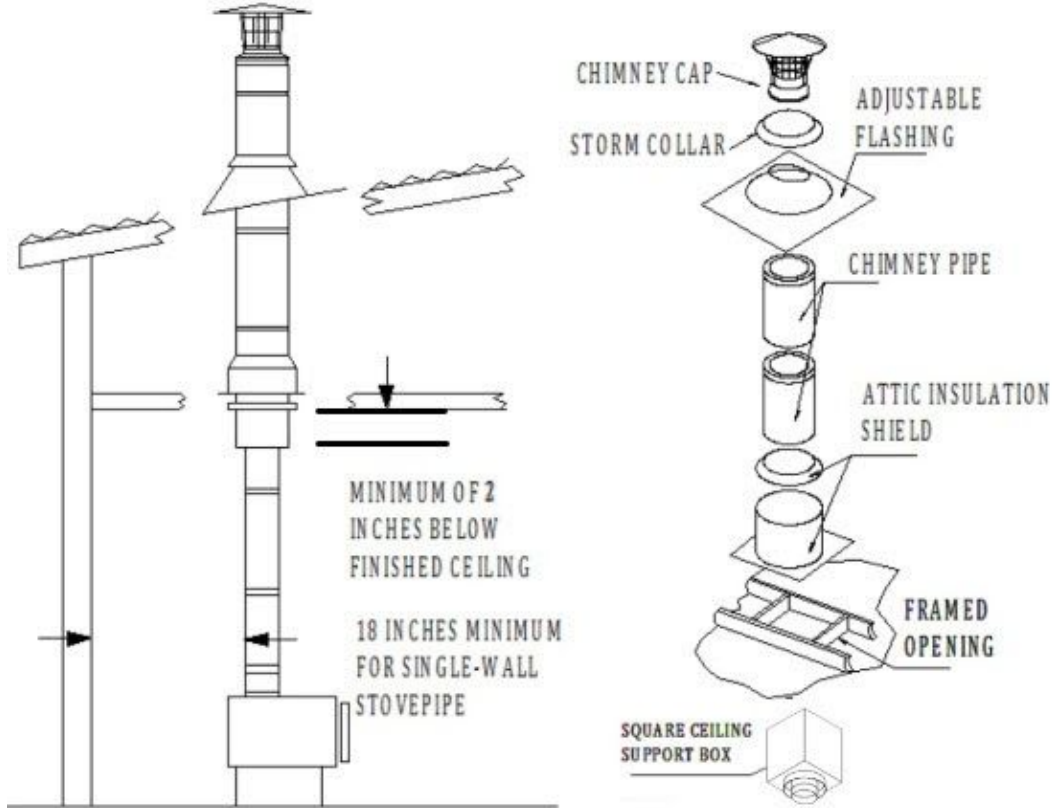

Fig.3
- Frame Support Opening:** Drop a plumb bob to the center of the appliance's flue outlet and mark the center point on the ceiling. Refer to **Table 1** for specific framing and clearance dimensions. Mark appropriate cutting lines on the ceiling around the center point. Cut a square hole in the ceiling for the Ceiling Support Box to pass through. Frame a level, square opening centered over the hole which you have cut between the joists (Fig 3 & 4).